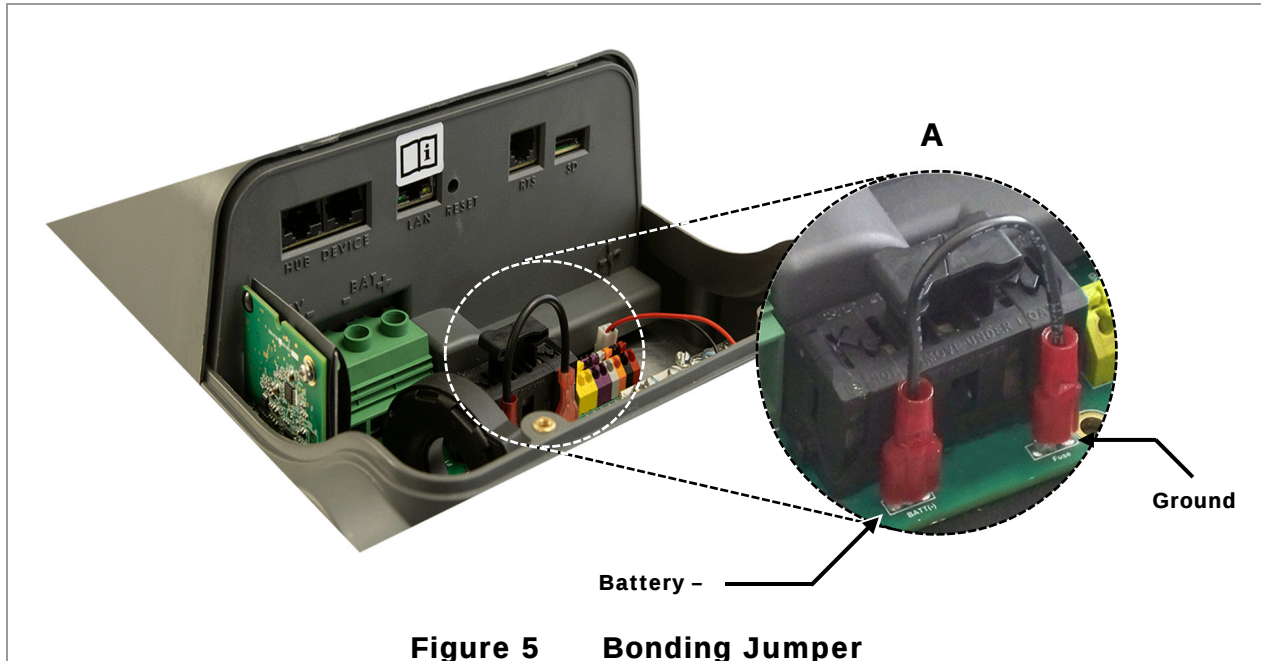

Figure 5 Bonding Jumper
The FLEXmax 100 uses a jumper wire to create a functional ground for one conductor. Connecting this wire completes a mechanical connection (bond) between one battery conductor and the ground. The default position creates a negative-to-ground bond, the most common configuration (item **A** in Figure 5).
- Remove the bonding jumper wire (item **A** in Figure 5).
If alternate PV system grounding configurations or GFDI methods are required, remove the ground bonding jumper wire from all FLEXmax 100 controllers (see Figure 5 on page 13). Do not remove the GFDI fuses from any controllers. Once the bonding wire has been removed, the external ground fault device can be installed according to its own instructions.